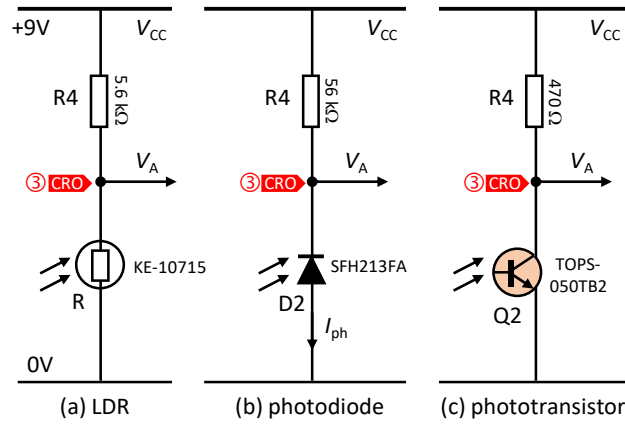

Fig. 3. The front-end of photodetection circuits when light-sensing elements are (a) LDR, (b) photodiode or (c) phototransistor.
The detectors of interest here are limited to optoelectronic devices which receive light (opto-) and output (-electronics) signal. The 3 basic detectors as summarized in Table 2 can be biased as part of a *voltage divider* shown in Fig. 3.
1. The *light-dependent resistor* (LDR) is resistive ( $M\Omega$ ) in the dark but quite conductive ( $< k\Omega$ ) when exposed to ambient light. With connection as shown in Fig. 3(a), the light-dependent voltage  $V_A$  can be determined from  $[R/(R+R_4)] \times V_{CC}$
► **Build** the LDR detector as shown in Fig. 3(a). Put a red LED (blinks at 5 Hz) close to the LDR surface. **Test** it: 1) use the CRO to probe the voltage across the LDR ③, observe it with respect to  $I_{LED}$  ②, 2) block the beam and note how the waveform changes.  $\boxed{\text{③} \text{②} \text{③}(1,0)}$  where 1 means with beam, 0 without beam (broken beam)
► Increase the LED blink frequency to 5 kHz. **Build & Test.**  $\boxed{\text{③} \text{②} \text{③}(1,0)}$
2. The *photodiode* (D2) operates in the third quadrant in the  $I$ - $V$  space, 385 Chapter 8, and is thus reverse biased in Fig. 3(b). In the dark, the resistance of the photodiode is so high the current is practically zero. With light exposure, the diode passes a small photocurrent  $I_{ph}$ , thus the voltage across it drops by  $I_{ph} \cdot R_4$ .
► **Build** the photodiode detector as shown in Fig. 3(b). Put an IR LED (blinks at 5 kHz) close to the diode surface. **Test** it: 1) use the CRO to probe the voltage across the diode, 2) block the beam and note how the waveform changes.  $\boxed{\text{③} \text{②} \text{③}(1,0)}$
► (Re-) **Design** it: vary the bias resistors ( $R_3$  for the emitter,  $R_4$  for the detector) to get a signal ( $V_A$ ) with “better shape and size”. “Better shape” means the waveform at the detector ( $V_A$ ) is as close to those at the emitter as possible (square wave). “Better size” means the waveform has a large peak-to-peak voltage,  $V_{p-p}$ . Ideally,  $V_{Low}$  should be as close to the negative rail or GND (0 V) and  $V_{High}$  should be as close to the positive rail (9 V) as much as possible. Then, **Build & Test** as above.  $\boxed{\text{③} \text{②} \text{③}(1,0)}$
3. The *phototransistor* (Q2) provided is an npn BJT with a transparent window, allowing light to fall on to the base, generating the base current  $I_B$  as in standard (windowless) BJT. The phototransistor thus does not require electrical connection to the base, leaving only two terminals for bias as shown in Fig. 3(c). In the dark, the transistor is off, the collector voltage ( $V_C$  or  $V_A$  in Fig. 3(c)) is pulled up (reaches the supply
► **Build** the phototransistor detector as shown in Fig. 3(c). Put an IR LED (blinks at 5 kHz) close to the transistor surface. **Test** it: 1) use the CRO to probe the voltage across the transistor, 2) block the beam, note how waveform changes. 📁②③(1,0)
► (Re-) **Design** it to get “better shape and size”: (same as the photodiode part described above). Then, **Build & Test** as above. 📁②③(1,0)